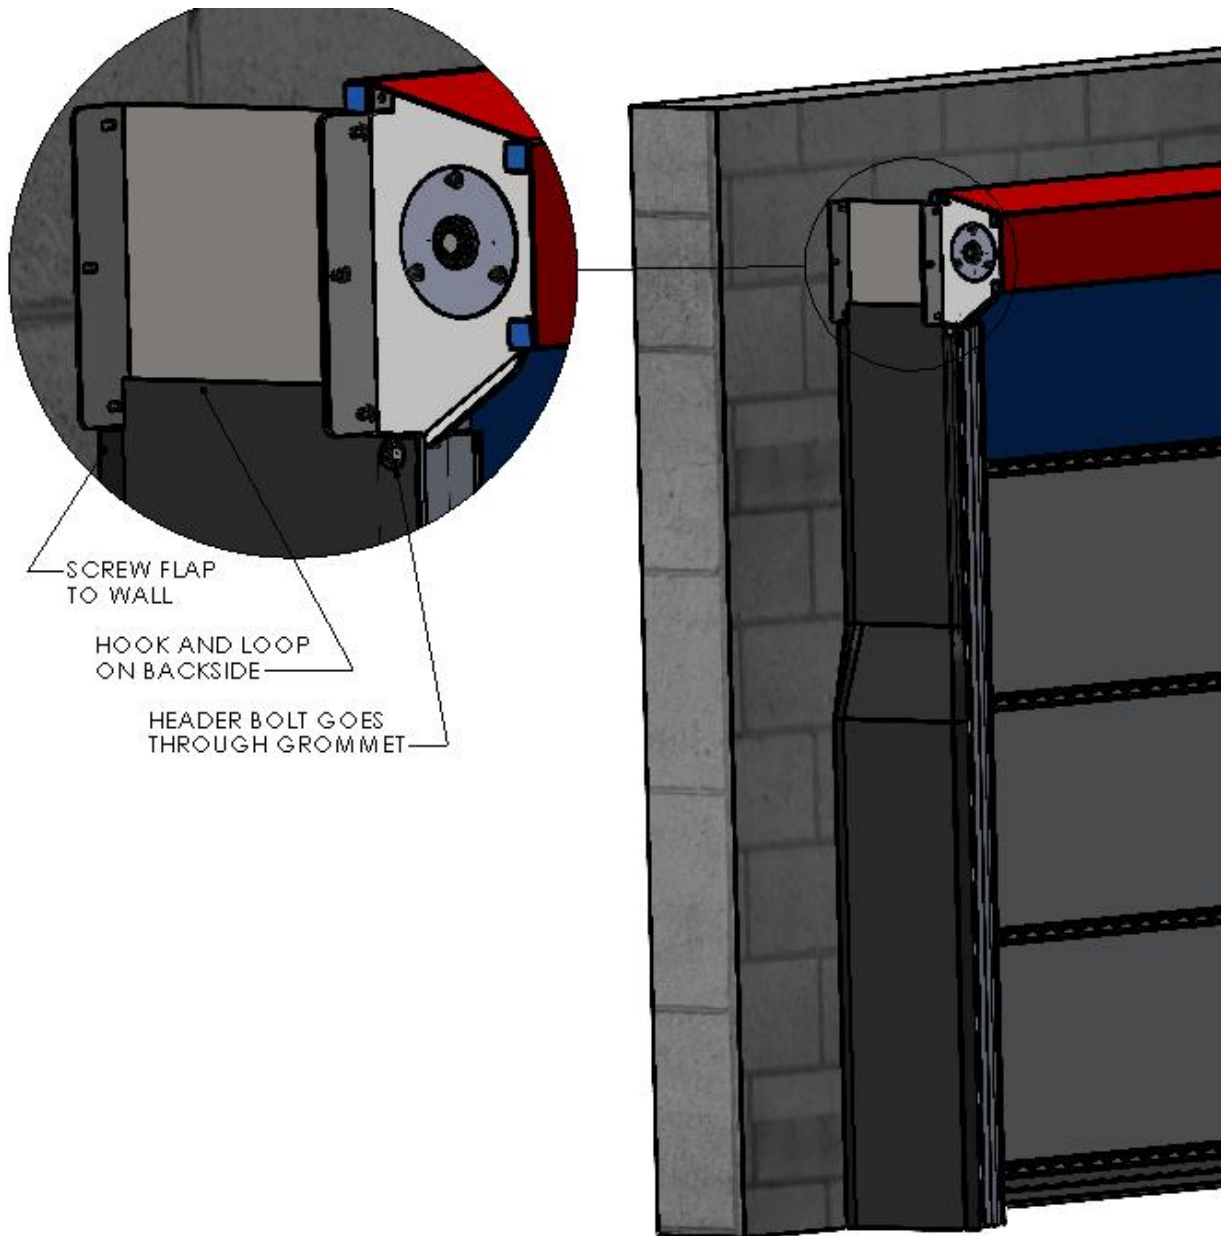

Figure 12 SECURE SIDE SEAL
1. Remove the nut and washer from the Track Transition Bracket, then re-install them over the Side Seal Grommet. (Figure 12 SECURE SIDE SEAL)
2. Secure the top edge of the Side Seal to the Header Projection Brackets via the hook-and-loop strips provided in the hardware bag. (Figure 12 SECURE SIDE SEAL)
3. Fold the Side Seal Material to flatten it against the wall, then secure it through the material into the wall with appropriate screws. (Figure 12 SECURE SIDE SEAL)